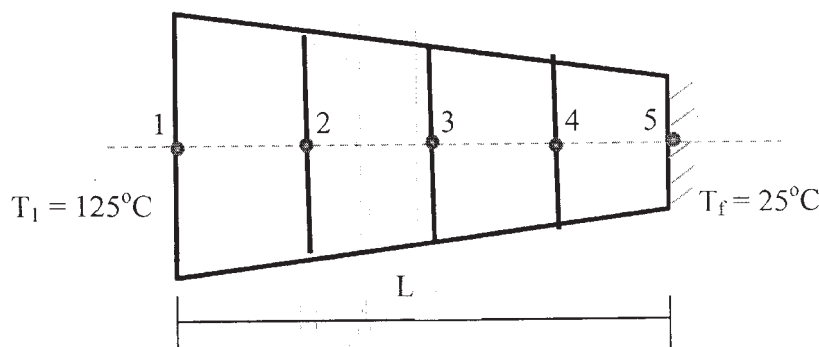

Figure 1
- b) Obtain the forces in the plane truss shown in fig. 1 and determine the support reactions also. Use finite element method. Take $E=200\text{Gpa}$ and $A=2000\text{ mm}^2$. [12]